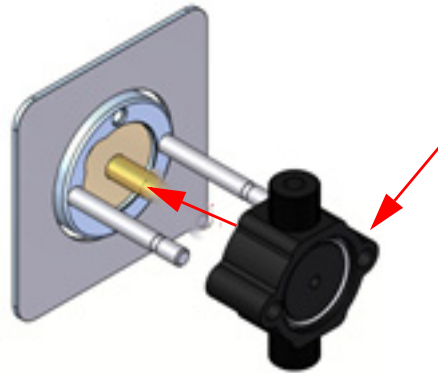

Figure 6-15 Reinstalling the pump spacer block
14. Carefully replace the pump spacer block, making sure the O-ring is properly installed (Figure 6-15).